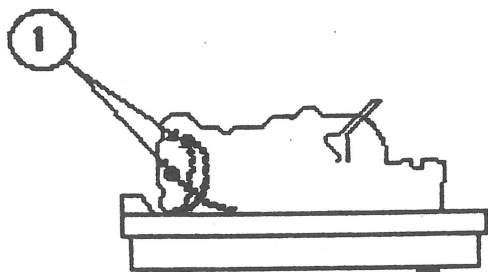

FIGURE 1
3. Pry the platen shaft holder (see Figure 1, #1) out from the carriage hole with a small screwdriver. Repeat for the holder at the other end.